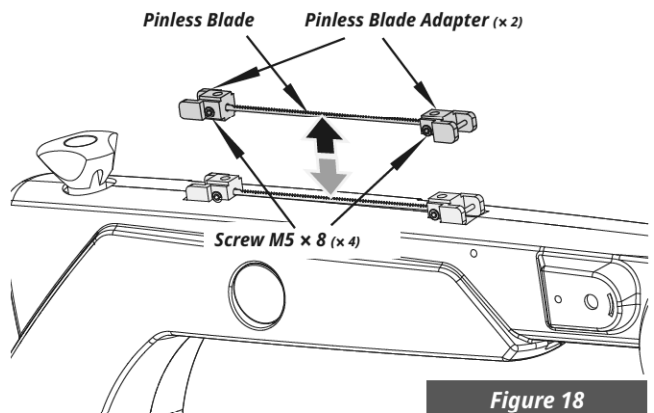

Figure 18
1. Take out the adapter. Fix the pinless blade with allen screws using allen wrench. (See Figure 18)